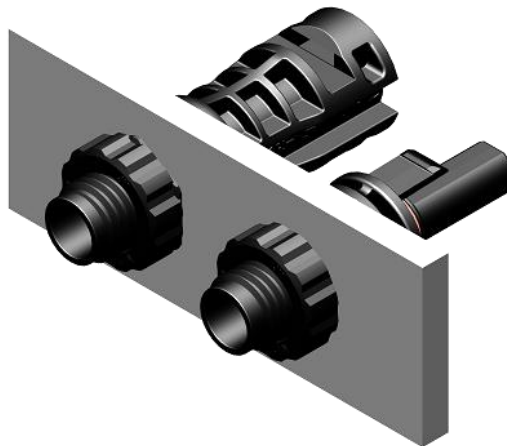

Figure 17
- ✧ 安装公/母面板连接器时，推荐用 2.0 Nm 的扭矩锁紧螺母。具体情况，需要由终端用户根据不同的面板验证合适的扭矩。(如图 17)
When installing the male or female panel connector, it is recommended to use 2.0 Nm torque lock nut. The appropriate torque has to be verified in the end use according to the respective housing.(Fig.17)